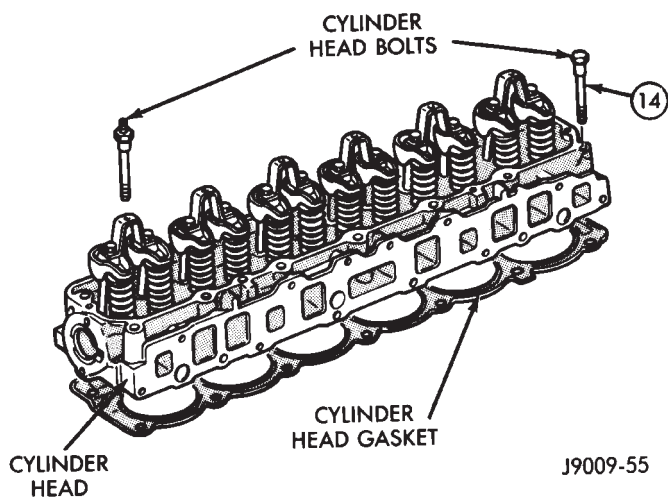

Fig. 32 Engine Cylinder Head Assembly
(9) If equipped, disconnect the power steering pump bracket. Set the pump and bracket aside. **DO NOT** disconnect the hoses.
(10) Perform the Fuel System Pressure Release procedure (refer to Group 14, Fuel System).
(11) Remove the fuel lines and vacuum advance hose.
(12) Remove the intake and engine exhaust manifolds from the engine cylinder head (refer to Group 11, Exhaust System and Intake Manifold for the proper procedures).
(13) Disconnect the ignition wires and remove the spark plugs.
(14) Disconnect the temperature sending unit wire connector.
(15) Remove the ignition coil and bracket assembly.
(16) Remove the engine cylinder head bolts. Bolt No.14 cannot be removed until the head is moved forward (Fig. 32). Pull bolt No.14 out as far as it will go and then suspend the bolt in this position (tape around the bolt).
(17) Remove the engine cylinder head and gasket (Fig. 32).
(18) If this was the first time the bolts were removed, put a paint dab on the top of the bolt. If the bolts have a paint dab on the top of the bolt or it isn't known if they were used before, discard the bolts.
(19) Stuff clean lint free shop towels into the cylinder bores.